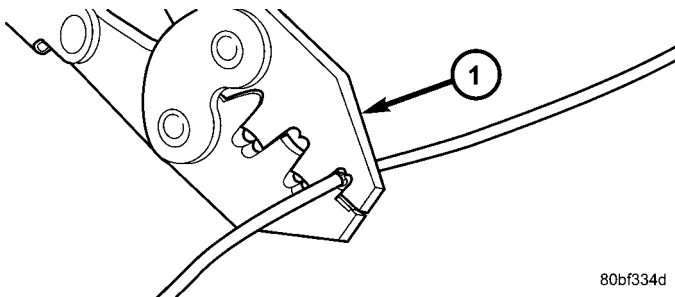

Fig. 15 CRIMPING TOOL
(4) Using crimping tool, Mopar p/n 05019912AA, crimp the splice clip and wires together (Fig. 15).